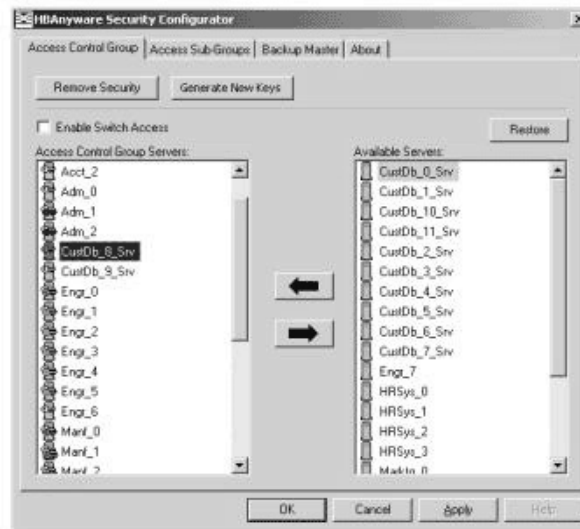

Figure 82: HBAware Security Configurator, Access Control Group Tab on an MSC System
3. Select the unsecured servers that you want to add to the ACG from the Available Servers list (Figure 82).
2. On the Access Control Group tab, from the Available Servers list, select the unsecured servers to add to the ACG (Figure 82).
2. On the Access Control Group tab, from the Access Control Group Servers list, select the secured systems to delete from the ACG (Figure 82).
1. Start the HBAnyware Security Configurator. The Access Control Group tab appears (Figure 82).
1. From the Access Control Group tab on the MSC, click the **Restore** button (Figure 82).
2. From the Access Control Group tab, check **Enable Switch Access**. (Figure 82).